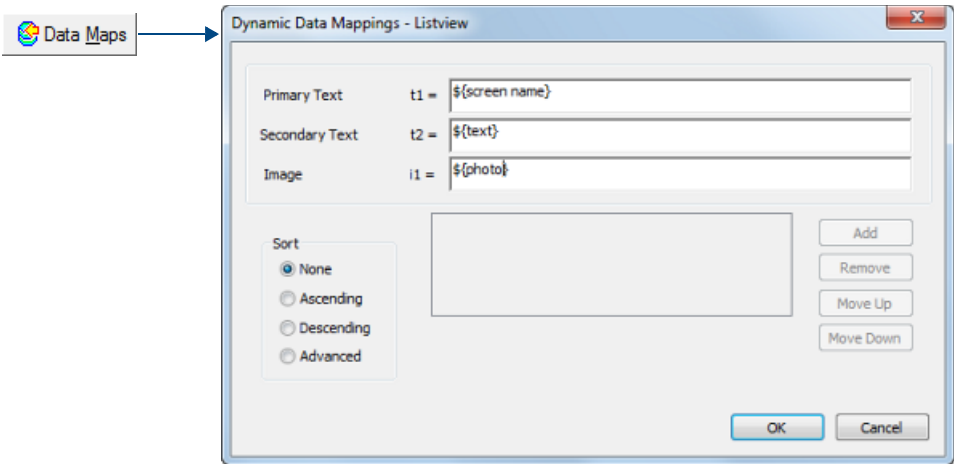

FIG. 193 Dynamic Data Mappings - Listview dialog (with example data indicated)
3. Click the **Data Maps** button to access the *Dynamic Data Mappings - Listview Buttons* dialog (FIG. 193):